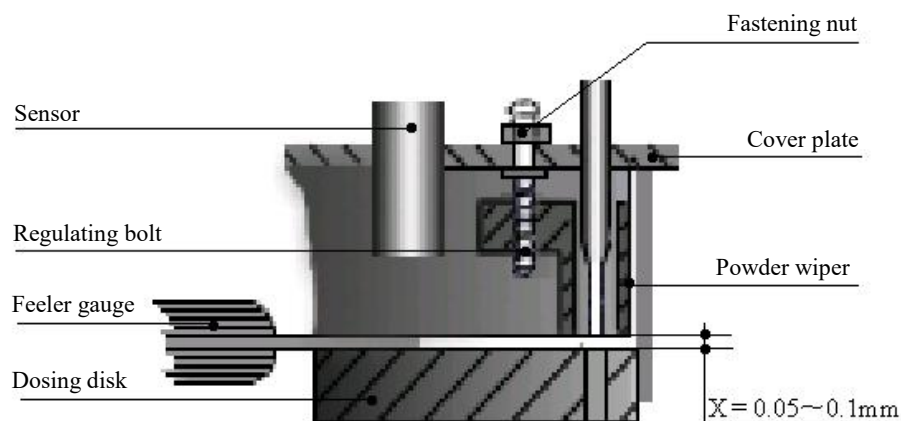

Fig. 18 Clearance between Powder Wiper and Dosing Disk
5.2.6 Adjustment of powder wiper clearance (refer to Fig. 18)